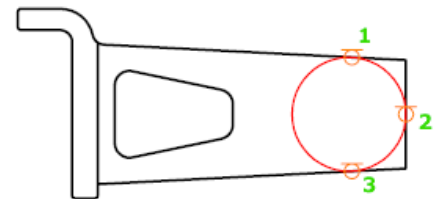

Figure 26
6. **Tan, Tan, Tan:** Creates a circle tangent to three objects (Fig. 26).